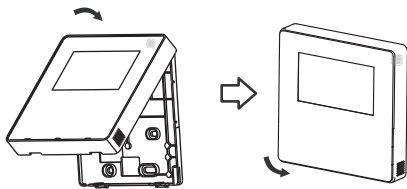

Fig 3-11
- After adjusting the upper case and then buckle the upper case; avoid clamping the wiring during installation. (Fig 3-11)